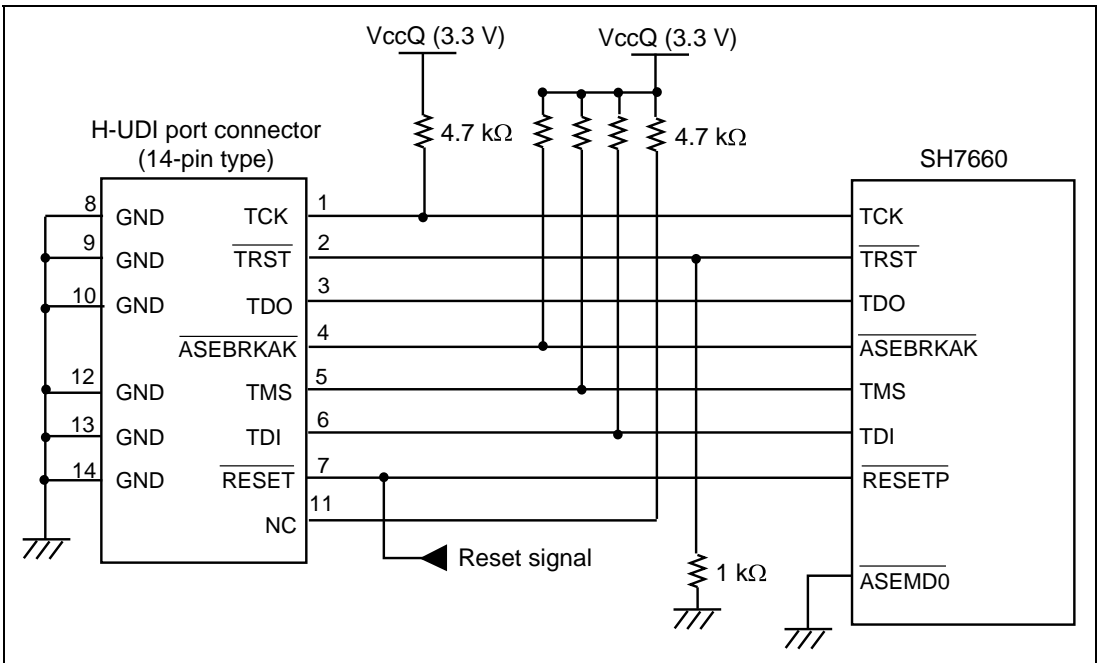

Figure 1.7 Recommended Circuit for Connection between the H-UDI Port Connector and MPU (14-Pin Type)
Figure 1.7 shows a recommended circuit between the H-UDI port connector and the MPU.
7. The resistance values shown in figure 1.7 are recommended.